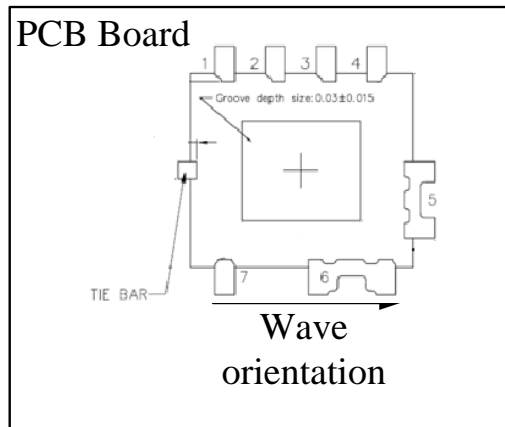

Fig.8 Wave orientation
- Wave orientation of CDFN package would be the best parallel to the Pin6 pad for making sure the first soldering of Pin6.( Wave orientation as shows in Fig.8)